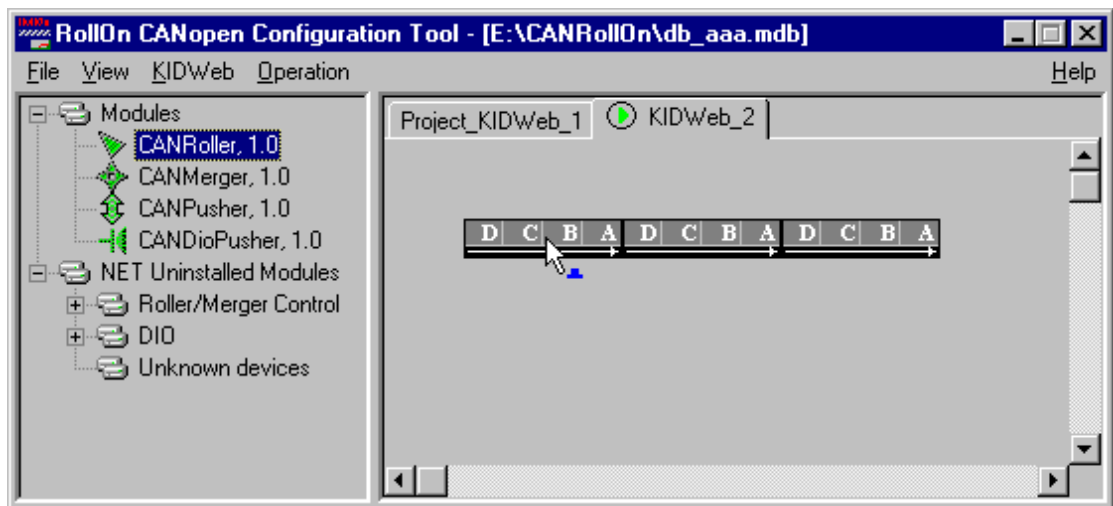

Fig. 5.16
- Click on **Service Pin Installation...** menu - the cursor is changed as a "button", refer to Fig. 5.16.